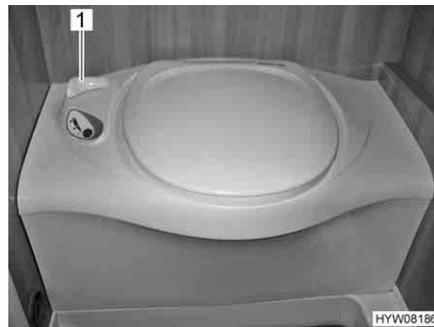

Fig. 222 Thetford toilet
- Before flushing open the sliding trap of the Thetford toilet. To do this, turn the slide lever (Fig. 222,1) in an anticlockwise direction.
- After flushing close the sliding trap. To do this turn the slide lever (Fig. 222,1) in a clockwise direction.